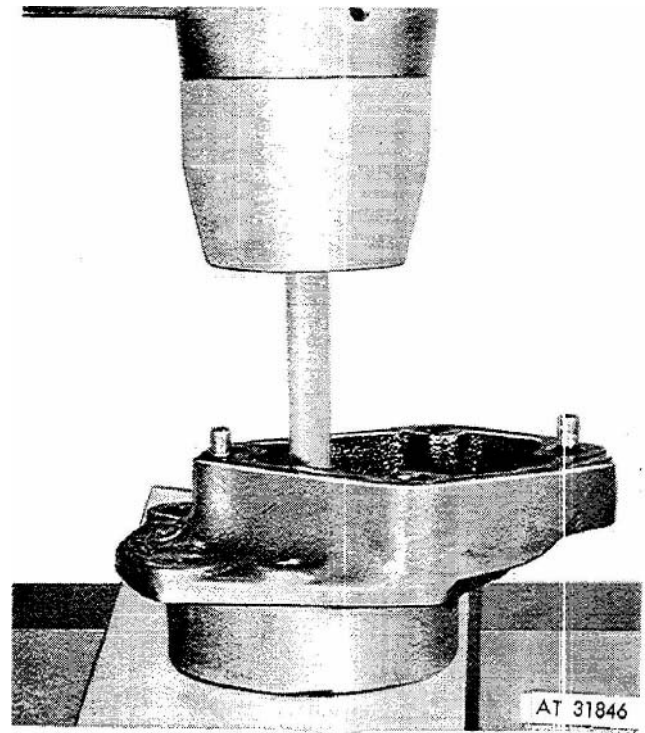

Figure 3-50. Pressing bushing from speedometer housing.
(16) Remove drive gear (10, fig 3-47), washer (11), and assembled speedometer gear shaft (55) from speedometer housing (50). Press bushing (12) from speedometer housing (fig 3-50).